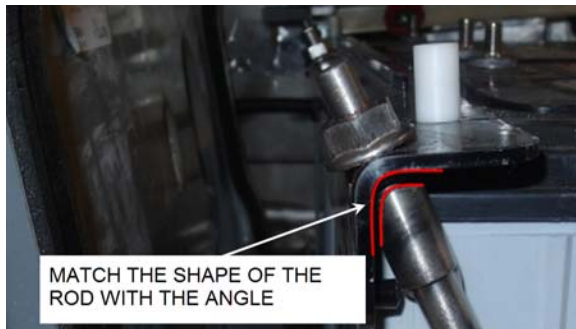

FIGURE 39: SHAPE OF THE ROD
3. The upper end of the rods is shaped to match with the angle (FIGURE 39).